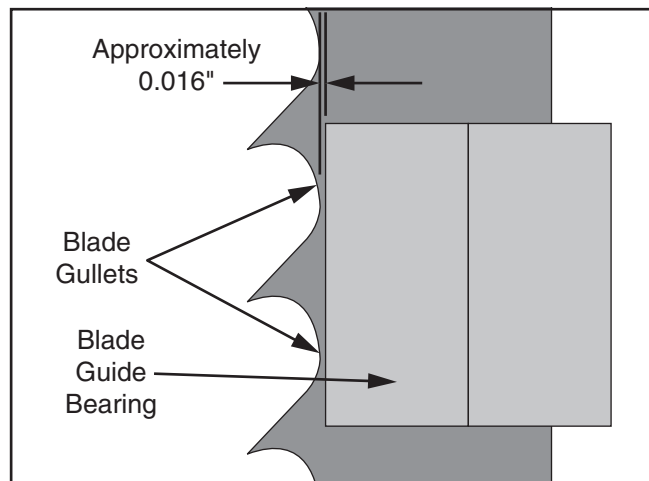

Figure 32. Blade guide bearing positioned just behind the blade gullets.
3. Loosen the cap screw shown in the figure above, then use the knurled knob to adjust the guide bearings laterally so the bearing faces are just behind the blade gullet, as illustrated in **Figure 32**, and re-tighten the thumbscrew to secure the setting.